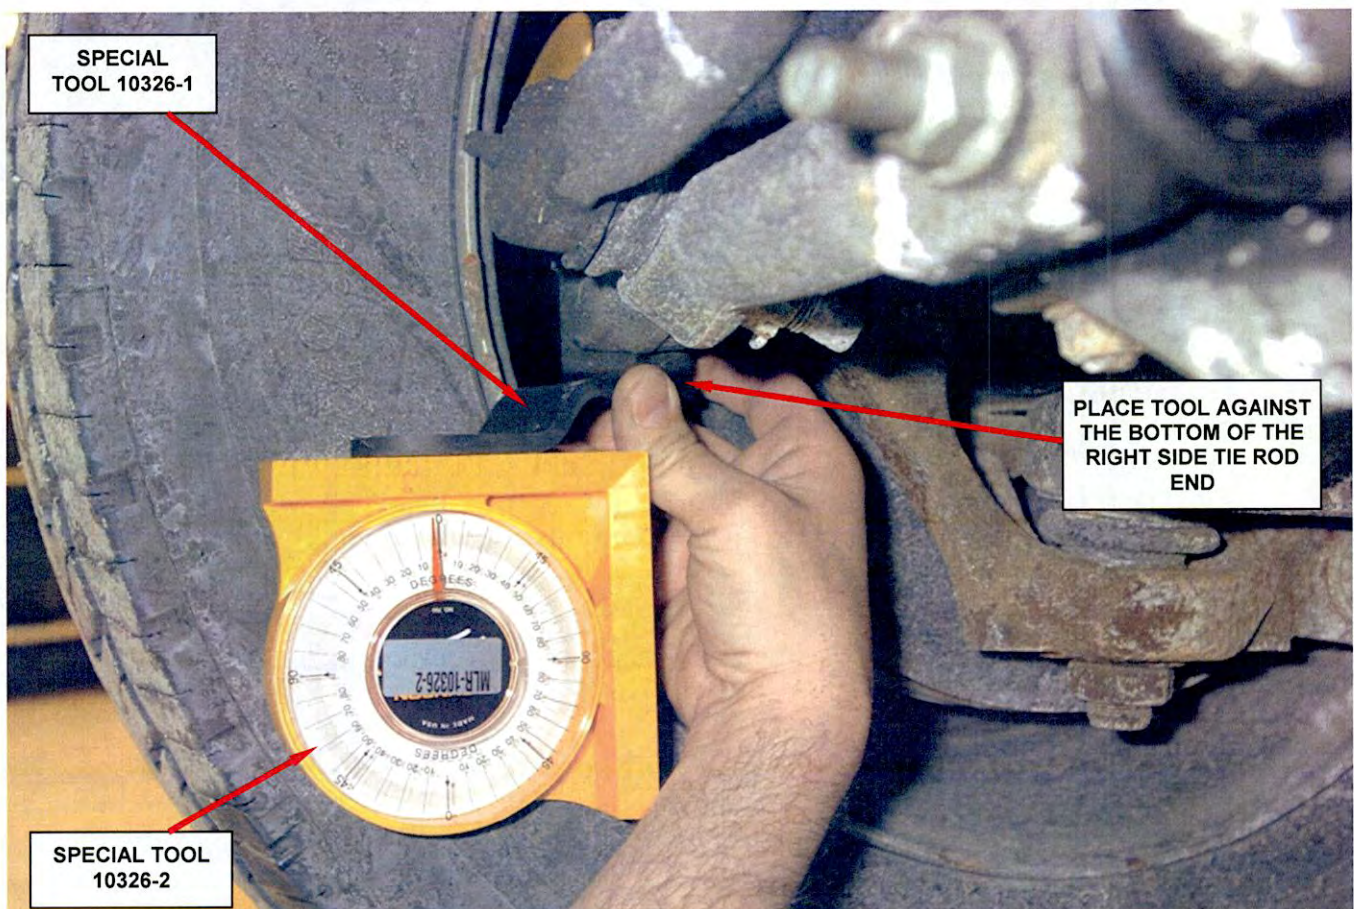

Figure 6 – Measure Right Side Tie Rod End Angle
21. Install Special Tool 10326-1 and 10326-2 onto the bottom surface of the right side tie rod end as shown in Figure 6. The grease fitting should be centered in the hole on Special Tool 10326-1.